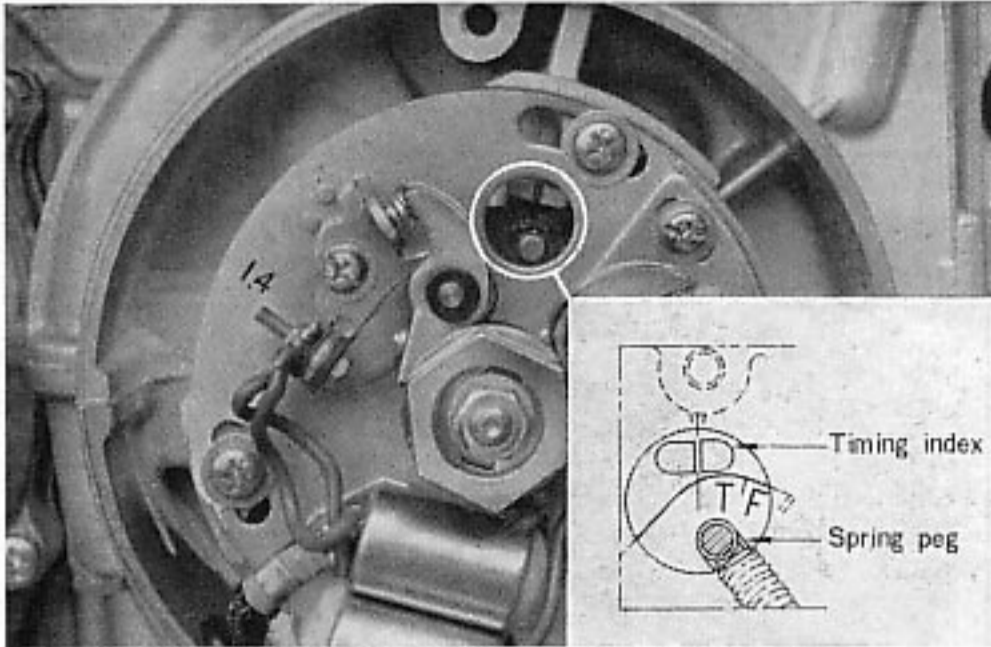

Fig. 9 Point cam position at 15° ATDC
4. Rotate the crankshaft clockwise until the spring peg on the advancer assembly at the 1.4 position is just to the right of a line from the timing index. (Fig. 9) This position is 15° ATDC 1.4. At this point, the slack in the cam chain will be on the tensioner side, thus assuring effective tensioner operation.